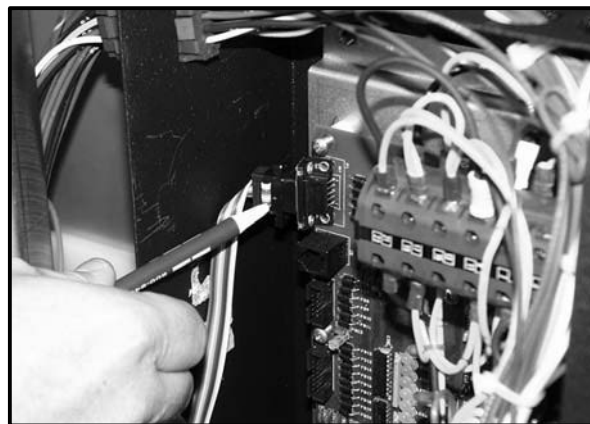

Figure 34
4. Attach a standard serial cable to the laptop computer's serial port, and to the 9 pin serial port located on the PCB in the control area. See Figure 34.